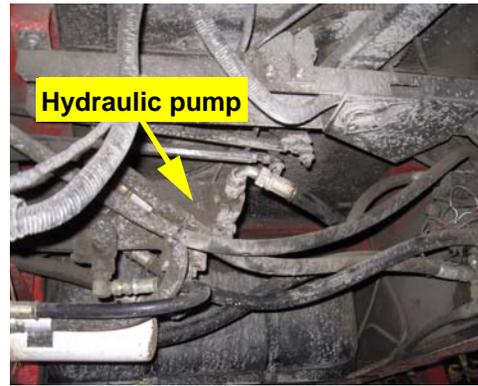

Figure 3a: Pressure location
a. The automated steering block receives pressure from the hydraulic pump located under the center of the cab (Figure 3a).